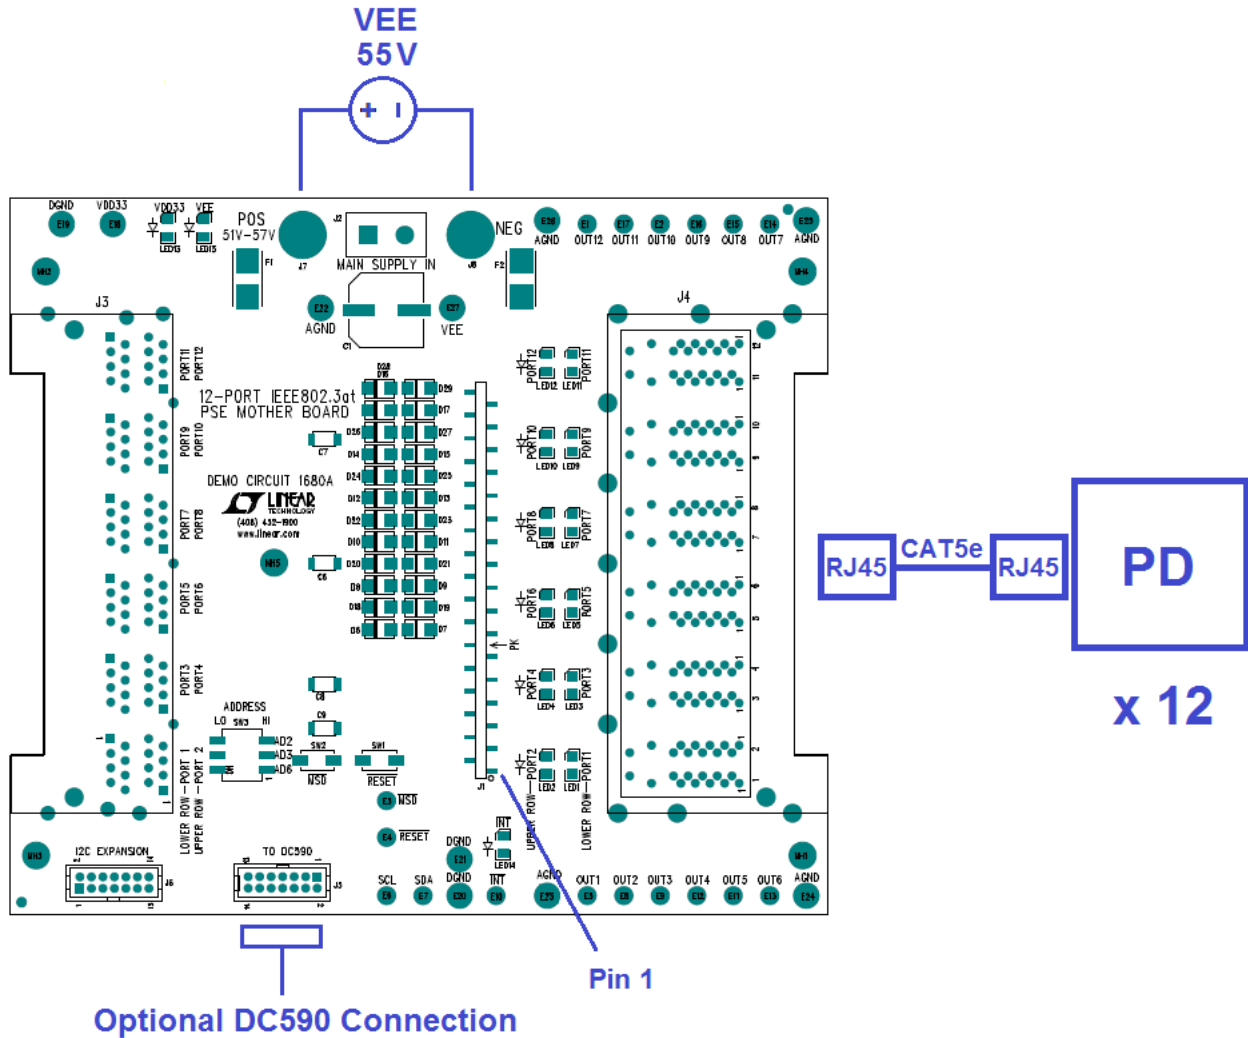
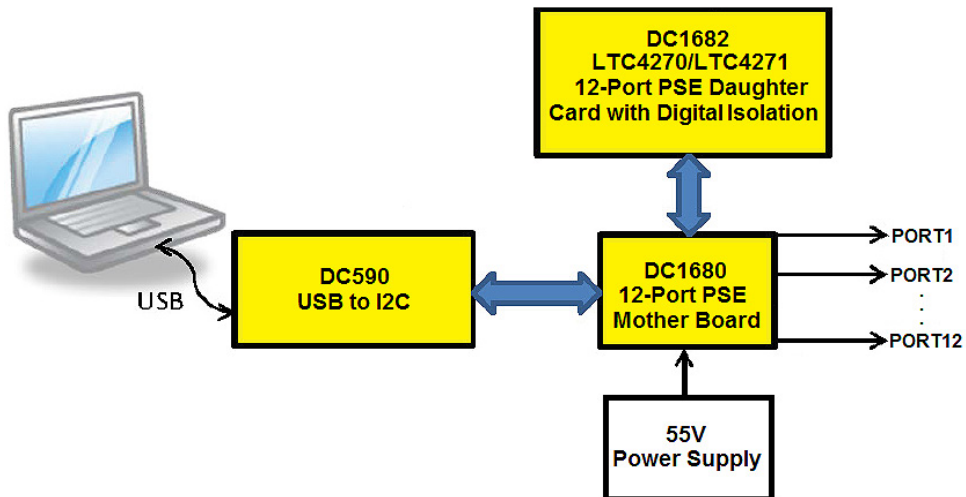

Figure 3. DC1840 Basic Setup
Figure 4. System Setup with the DC590, DC1680, DC1682 and 55V Power Supply
4. On the DC1680, connect a supply with the positive rail to POS and negative rail to NEG (Figure 3). Use a power supply capable of sourcing the maximum load expected ($12 \text{ ports} \times 850 \text{mA} \geq 10.2 \text{A}$). Ramp the supply up to 55V.
5. Connect up to 12 PDs to the DC1680, J4 (Figure 3).
6. The DC590 is optionally connected to the DC1680 connector J5 with a 14-pin ribbon cable (Figure 3). A GUI for the LTC4270/LTC4271 is brought up by QuikEval for I²C interfacing from a PC (Figure 4).
Connect a power supply for V_{EE} with the positive rail to POS and negative rail to NEG as shown in Figure 3 of the Quick Start Procedure. Set the voltage within the range in Table 1 depending on whether the application is a Type 1 or Type 2. Choose a power supply rating and set the current limit high enough to provide power for the maximum number of PDs connected and to meet each PD power requirements.
PDs are connected using an Ethernet cable to any of the 12 ports at the 2×6, RJ45 connector J4 on the DC1680A (Figure 3). J4 has an integrated Ethernet transformer and common mode termination for each port. Test points for port outputs OUT1 through OUT12 are provided.